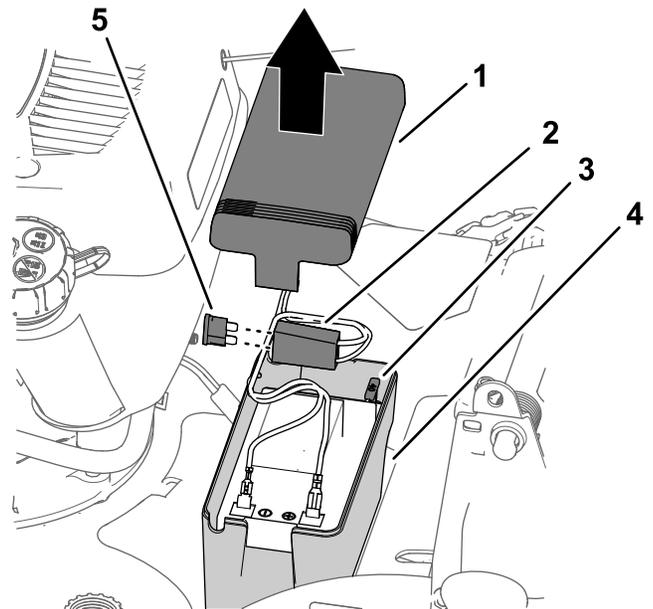

Figure 31
1. Remove the cover from the battery compartment (Figure 31).
2. Locate the fuse (Figure 31).
3. Replace the fuse in the fuse holder (Figure 31).
4. Install the cover over the battery compartment (Figure 31).